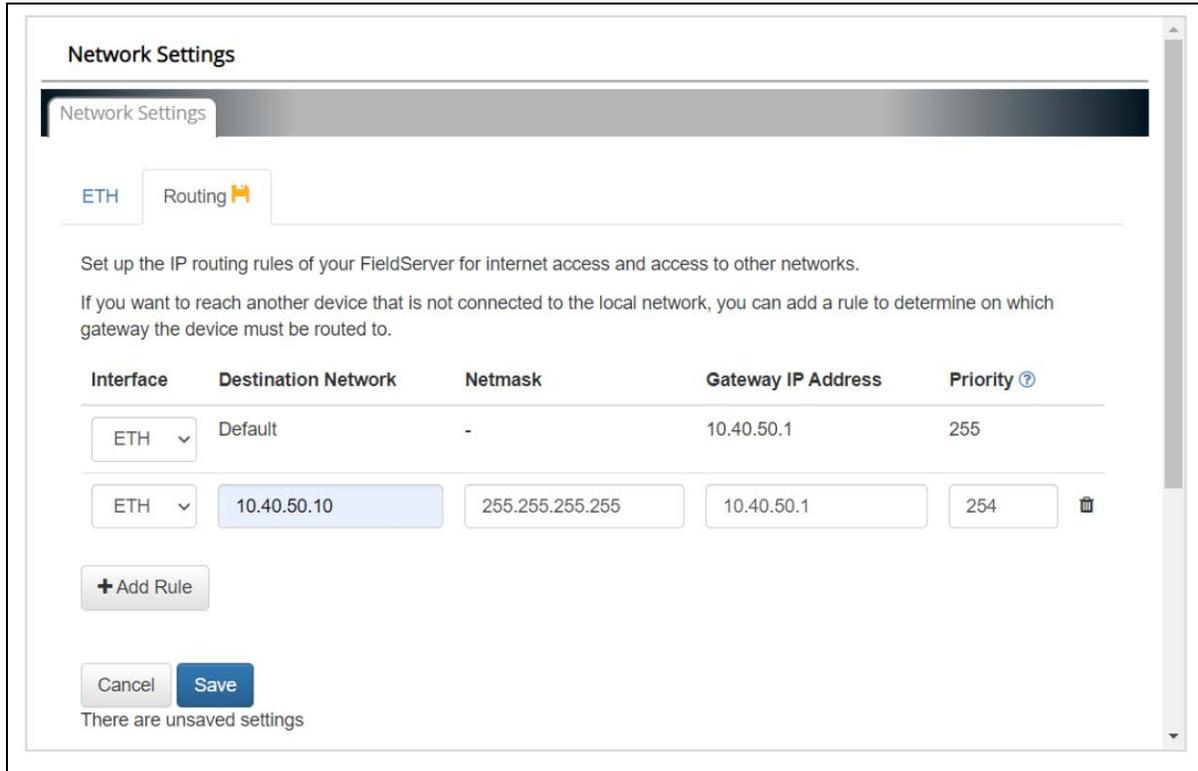

Figure 37. Routing Settings
- In the Navigation panel of the FS-GUI User Management screen (see Figure 36), click on **Network Settings** (see Figure 37).